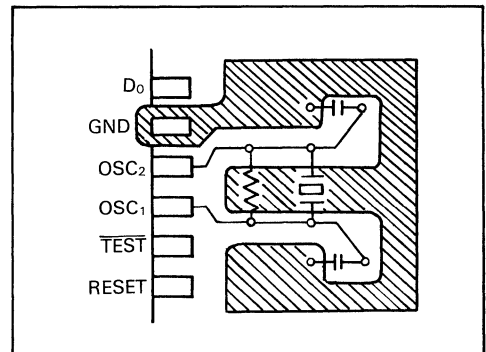

Figure 13. Layout of Crystal and Ceramic Filter
15 for selection of the type. In addition, see figure 13 for the layout of the crystal or ceramic filter. In all cases, external clock operation is available. Three divide ratios, 1/16, 1/8, and 1/4, are selectable via mask option (table 14).
2. Wiring between OSC₁, OSC₂, and elements should be as short as possible, and never cross the other wires. Refer to the layout of crystal and ceramic filter (figure 13).